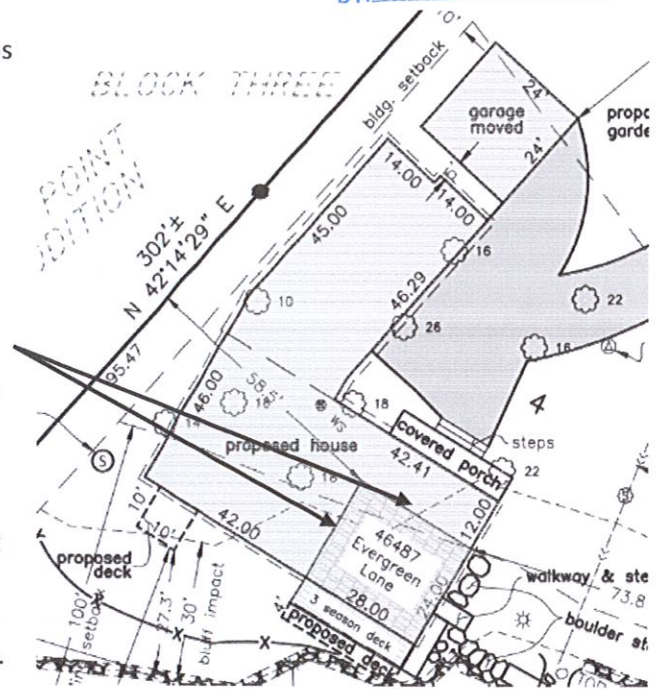

Figure 2 Proposed Addition
Figure 2 is a picture of the proposed addition that we would like to build. The addition will include bedrooms (3), bathrooms (2.5) and an attached garage. The current existing structure will be for the kitchen and living space. It will be modest in size, comparable to other homes in the area, and most importantly has minimal impact to bluff zones.